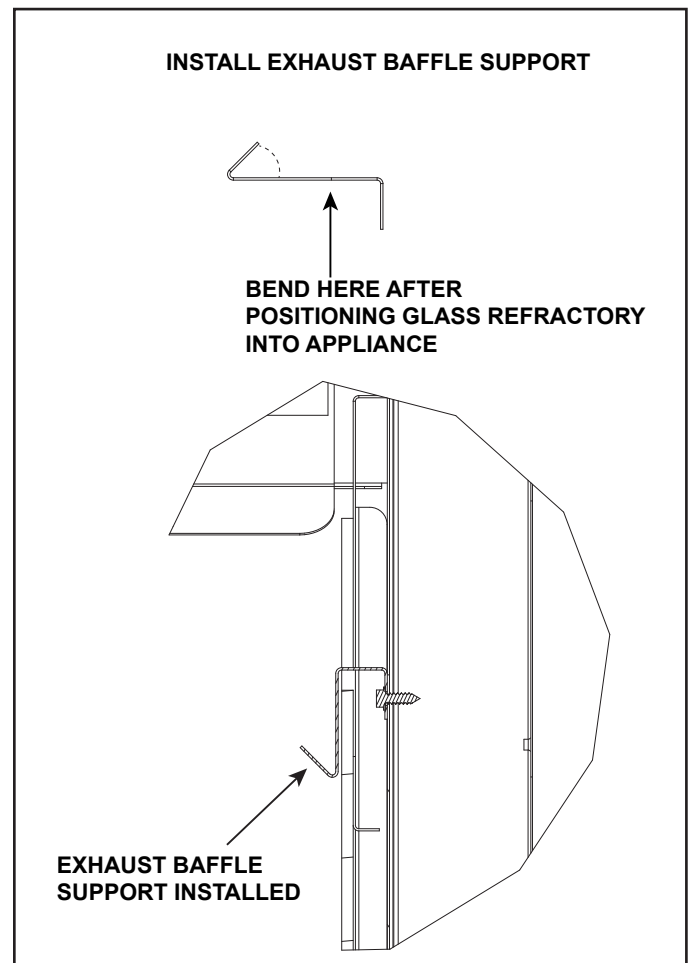

Figure 4. Install Exhaust Baffle Support
12. Bend the exhaust baffle support as shown in Figure 4.